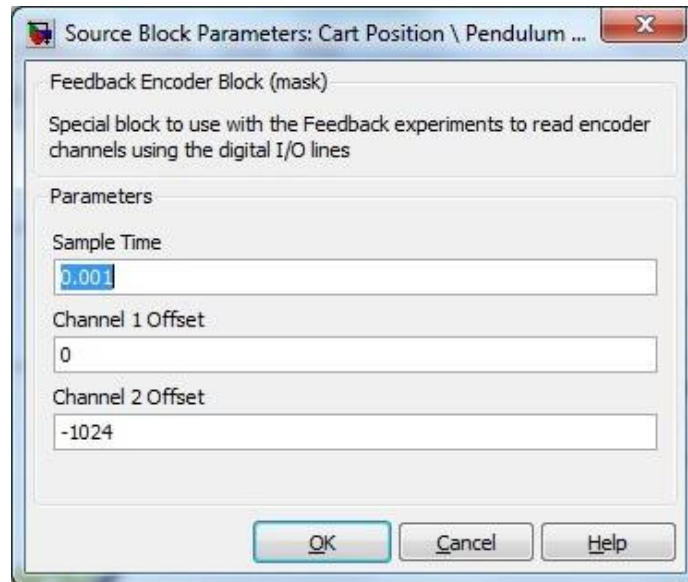

Figure 25 Feedback Encoder Block Parameters
- By double clicking on this block we can change the above parameters (see Figure 25).